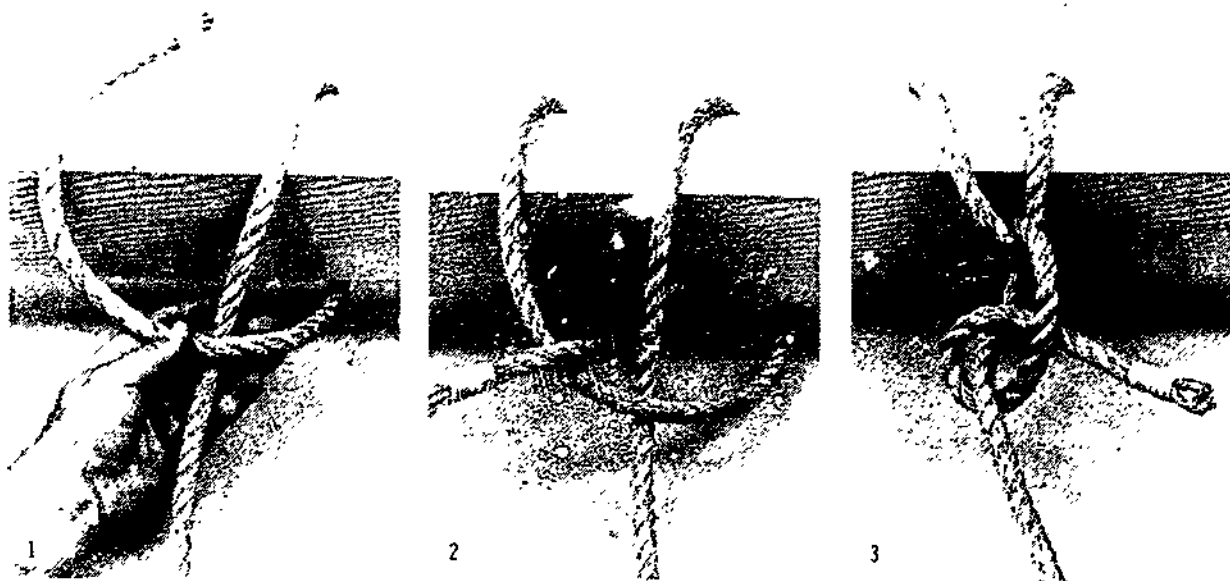

Figure 7-20. Tying a Clove Hitch at the End of Line
- 3 The **clove hitch** offers a fast, simple way of fastening a line to a post, timber or pipe and can be tied at any point in the line. To tie a clove hitch in the middle of the line, make two turns close together in the line and twist them to bring them back to back as shown in Figure 7-19. Slip the loops over the post. To tie a clove hitch at the end of the line, two underhand loops are tied around the post as shown in Figure 7-20.